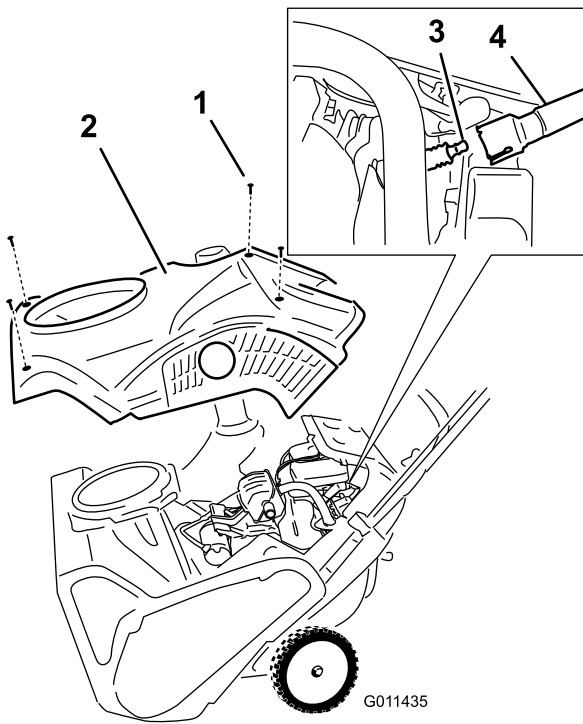

Figure 24
4. Remove the 4 screws that secure the shroud (Figure 24).
6. Remove the shroud (Figure 24).